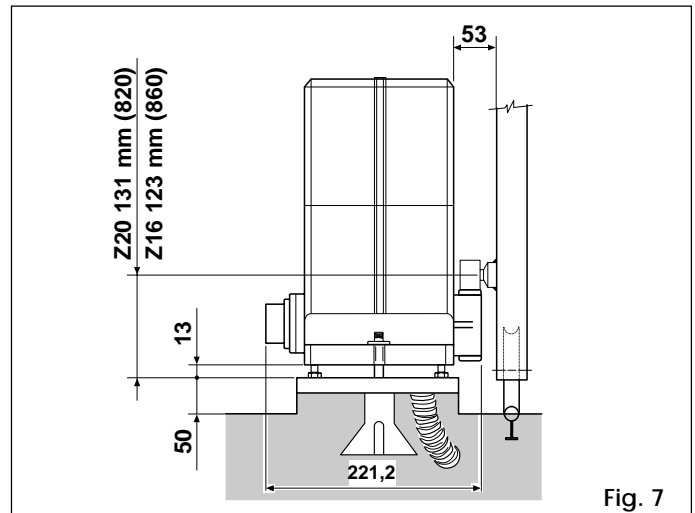

Fig. 7
**N.B.:** It is advisable to install the base plate on a concrete base raised about 50 mm from the ground (Fig. 7).
- 3) Adjust the height of the feet and the distance from the gate as shown in Fig. 7.